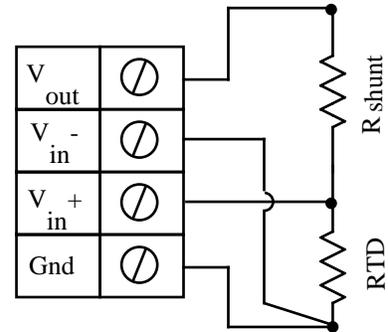

Fig 3.13 - Temperature Measurement (RTD) Voltage Divider Circuit
9. Wire your voltage source per figure 3.13, and refer to the steps at the beginning of this chapter for more information on how to set up your sensor. To reduce noise, 0.001 seconds of integration is often helpful (i.e. set the Integrate field in the Hardware setting area to 0.001).5, 10